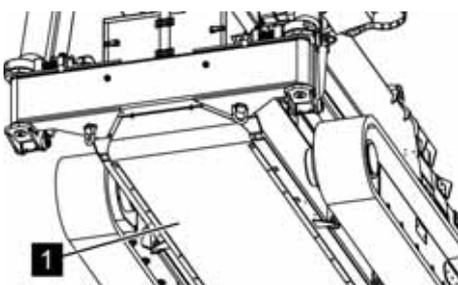

Fig. 148: Fastening the bottom plate
9. ▶ Screw the bottom plate (Fig. 148/1) tight.